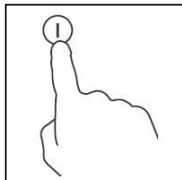

Fig.5
1. Turn the whole cooktop off by touching the ON/OFF control. (Fig.5)